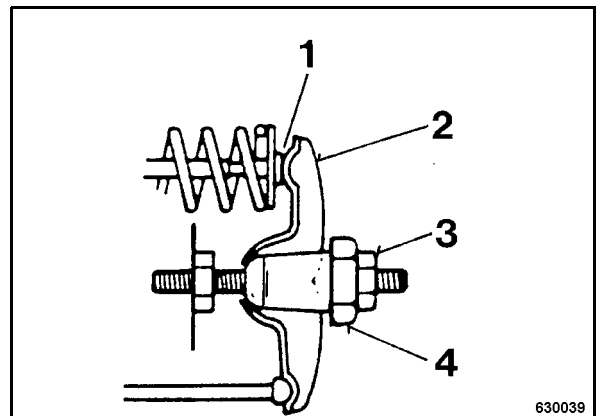

Fig. 61
- Hold hexagon nut (4) (Fig. 61) on the rocker lever and loosen counter nut (3).
- Adjust hexagon nut on the rocker arm so that the feeler gauge fits between rocker arm (2) and valve shaft (1) with noticeable resistance after retightening counter nut.